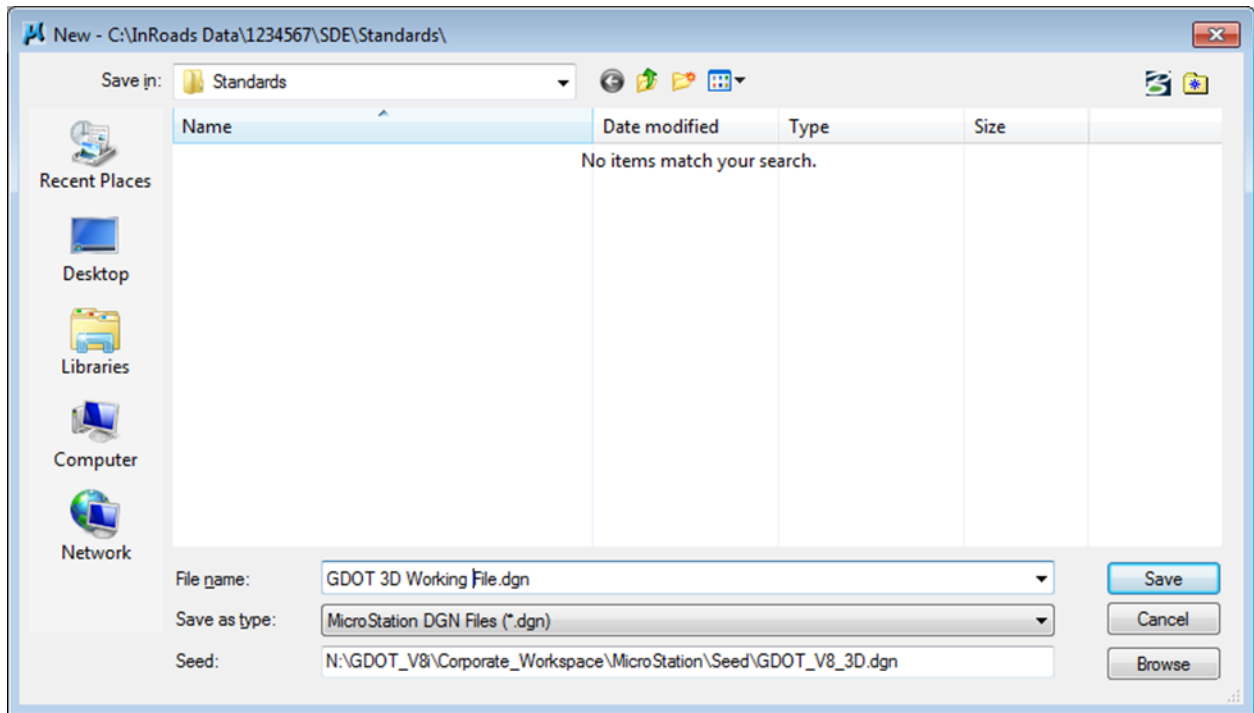

Figure 1-2 MicroStation New File Window
4. After the **New File**  command is selected, the **MicroStation New File** dialog box will open. (See Figure 1-2).
The inputs should now be similar to the screen capture depicted in Figure 1-2 (as shown below).